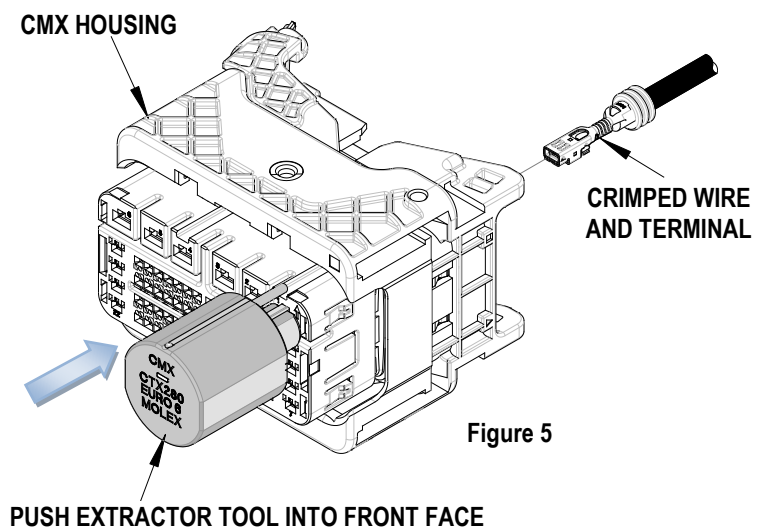

Figure 5
2. Push extractor tool into the desired "T" slot until it clicks or comes to a stop. Do not force the extractor tool any further or there can be damage to the housing. See Figure 5.